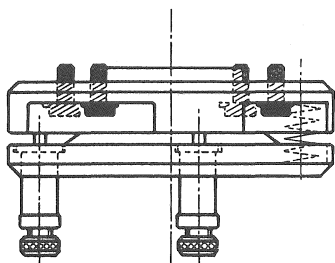

Fig 17
12.11 ATTACHMENT OF THE SWIVEL-SEAT (fig. 17)